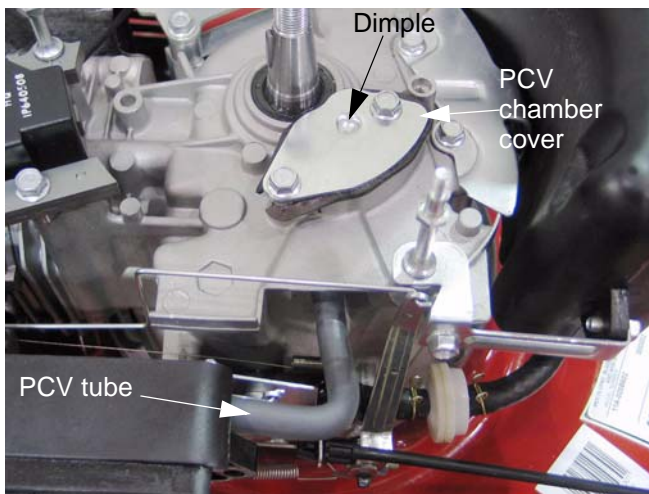

Figure 2.6
5. The PCV chamber is accessible by removing the flywheel, as described in the IGNITION SYSTEM chapter of this manual. See Figure 2.6.